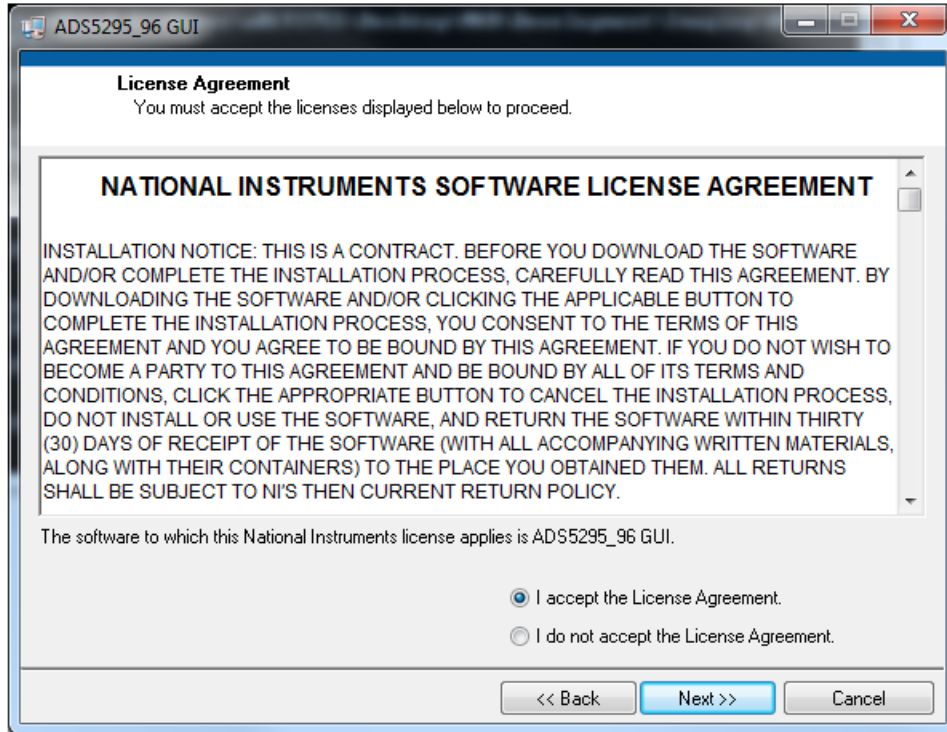

Figure 5. HSDCpro Install (d) 80
- Read the License Agreement from National Instruments and select *I accept the License Agreement* and press the *Next* button as in Figure 5.